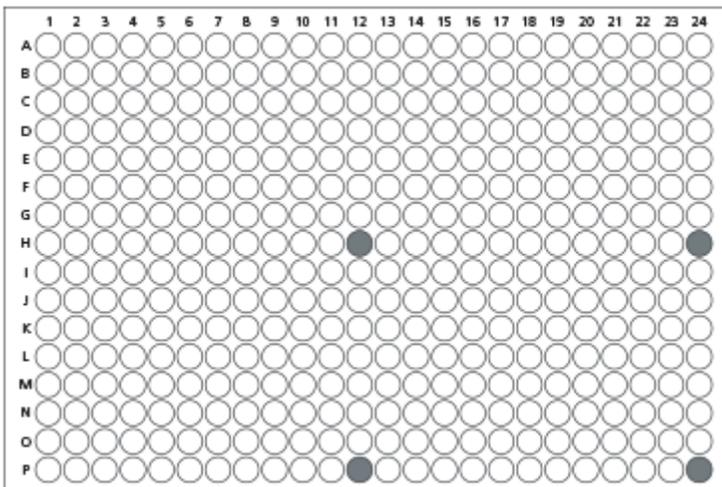

Figure 2. 384-Well Plate Diagram Indicating Wells Containing TBP qPCR Control Template
- 5 μ L TBP qPCR Control Template + 5 μ L qPCR Master Mix in each of wells H12, H24, P12, and P24 (see Figure 2)